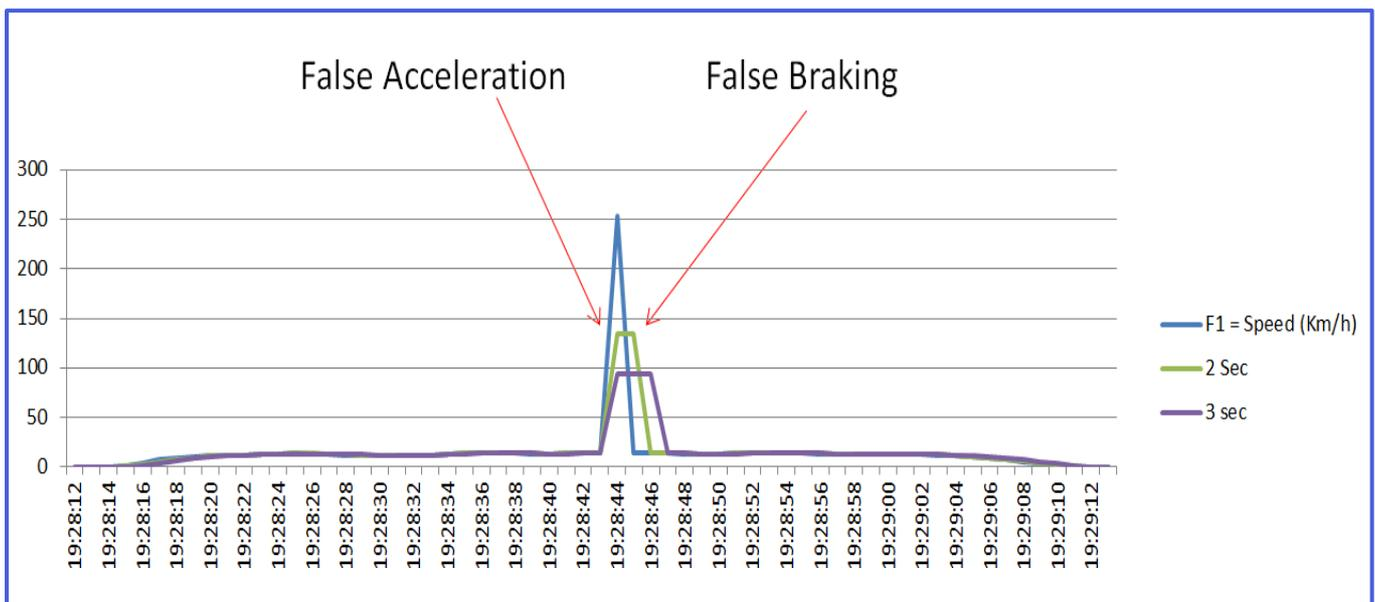

Figure 3: False Acceleration and False Braking due to speed spikes
Secondly we introduce a “Speed spike” at the maximum point in this graph at 19:28:44, i.e. we will make the speed value maximum (254 Km/h) for one second and then return to the original value (14 Km/h). The effect can be seen in the graph in Figure 3 below.
From the example in Figure 3, it is clear that this change is too big and if the “Harsh Acceleration (HA)” and “Harsh Braking (HB)” thresholds were both set to 10 Km/h/s, then the following would happen if you are using a: